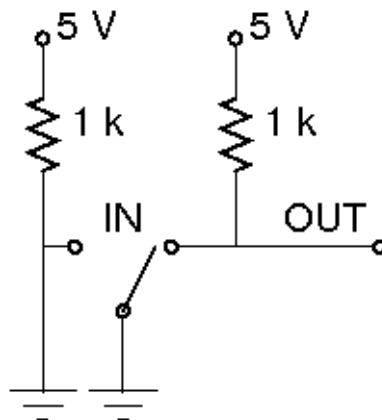

Fig. 8. Simple double-pole single-throw (DPST) switch (“bouncy”)
- 4.3 (Optional) Another very useful implementation of NAND gates is the Debounced Switch or SR Latch. A Debounce Switch prevents pushbutton switching events from triggering more than On/Off occurrence in a circuit. Debouncing inputs is critical in many logic circuit applications. A Debounce Switch or SR Latch can be completely constructed using discrete NAND gate logic when wired as shown in Fig. 8. This exercise is left as an optional activity.
2. Construct the circuit shown in Figure 8 and power it with +5V.